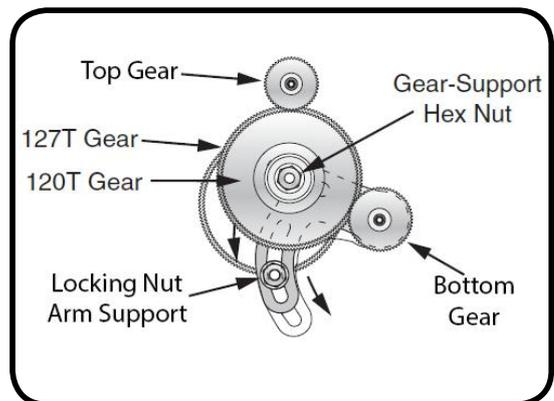

Fig. 42
5. While holding the 120T/127T gears, loosen the arm support locking nut and slowly let the gears pivot down and away from the upper top gear, as illustrated (Fig. 42)
6. Loosen the 120T/127T gear support hex nut and slide the middle gear away from the bottom gear. The 120t/127T gears may need to be reversed. Undo the gear support hex nut (Fig. 42) and reverse the gears.